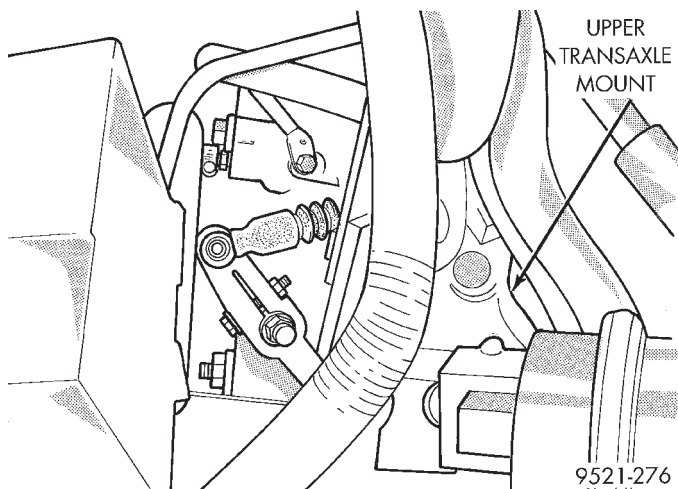

Fig. 46 Upper Transaxle Mount
(9) Remove left upper transaxle mount top bolts (Fig. 46).